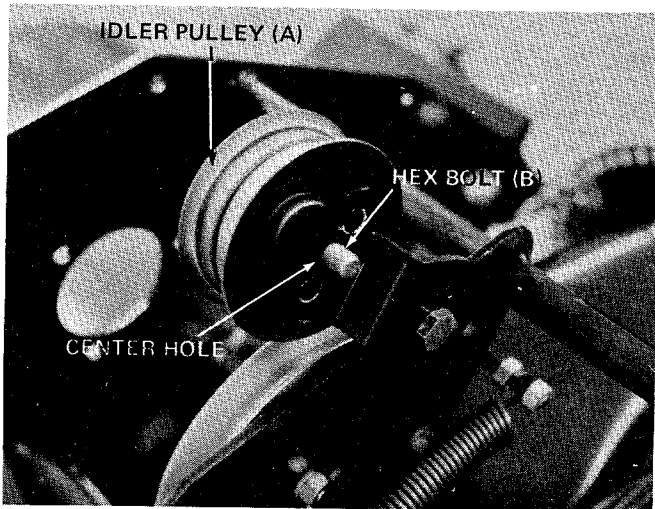

FIGURE 6
- Place hex bolt (B) through idler pulley (A) and through center hole on idler bracket. See figure 6.